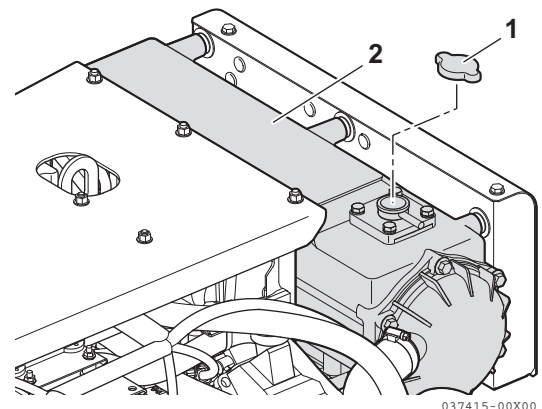

Figure 6
2. Loosen the filler cap (1, **Figure 6**) of the coolant tank to relieve the pressure, then remove the filler cap.
3. Pour coolant slowly into the coolant tank (2, **Figure 6**) to avoid air bubbles. Fill until coolant overflows from the filler port.